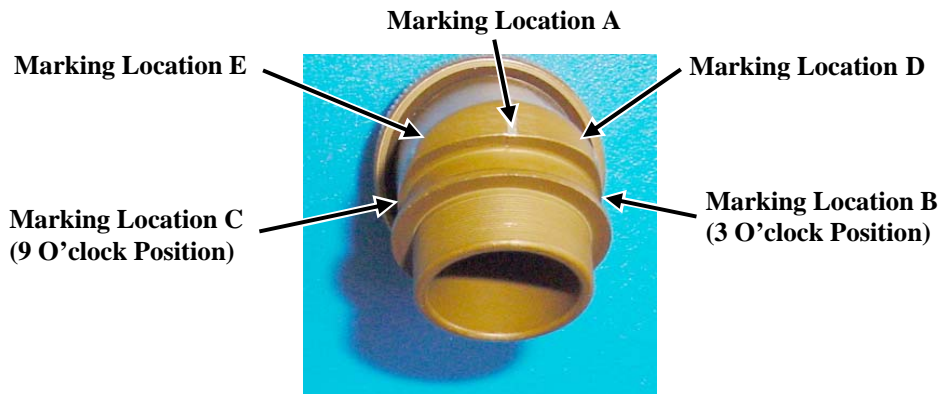

Figure 2a. Backshell Body Marking
2. Mark backshell on upper body using parting line as reference for mark A as shown in Figure 2a.
3. Mark backshell at D and C reference marks in Figure 2a, using a marking pen.
4. Mark backshell at approximately half way between mark A and B, or mark A and C, and label as mark E or mark D, as shown in Figure 2a, using a marking pen.